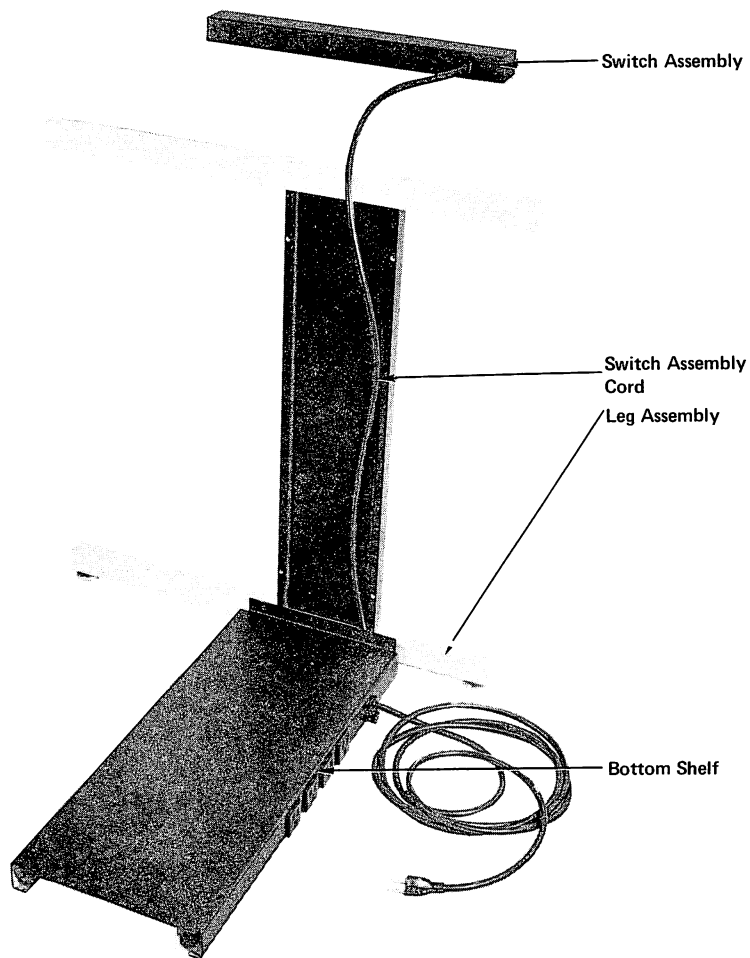

Fig. 1
Support the left leg assembly unit against a table or other support. The top of the leg assembly contains 3 holes, the bottom has 2 floor guards (see Fig. 1).
2. Lay the bottom shelf on the floor; drape the switch assembly and cord up and over the left leg assembly, as shown in Fig. 1. The back of the bottom shelf is easily recognized, as it has 4 outlets, 1 fuse, and a power cord.